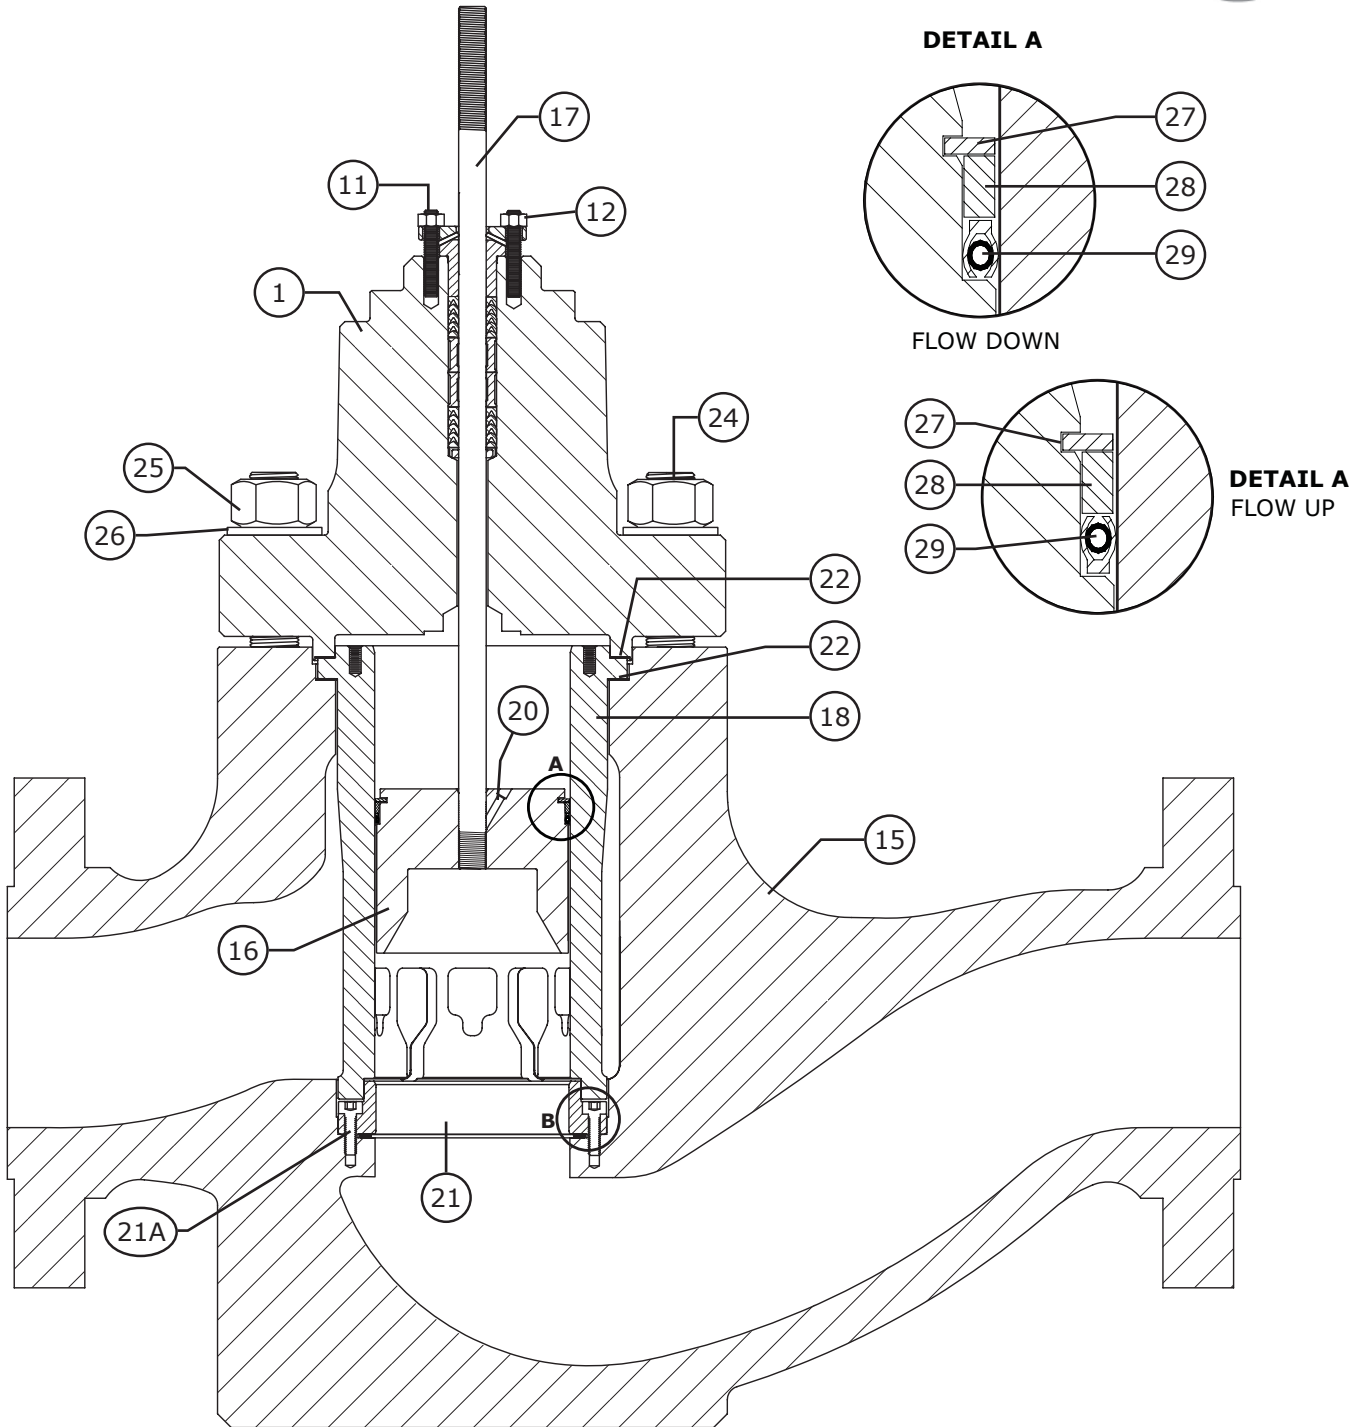

Figure 9 Model 380 Control Valve Cross Section
- A Refer to assembly diagram (Figure 9). Lubricate plug seal diameter and install seal ring (Key 29) with cup facing the correct direction as shown in Figure 9. Install back up ring (Key 28) and retaining ring (Key 27) as shown.